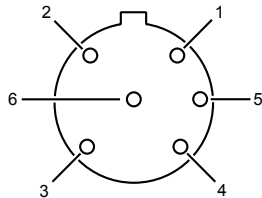

Figure 2-6 Keysight 8120-1082 Power Sensor Cable End View
- 2 Set the Keysight 34401A Digital Multimeter to measure resistance, and connect the DVM test prods between the center pin of the **V_{RF}** connector on the Keysight 432A Power Meter rear panel and pin 1 on the thermistor-mount end of the Keysight 8120-1082 Power Sensor Cable (see Figure 2-6 to locate pin 1).